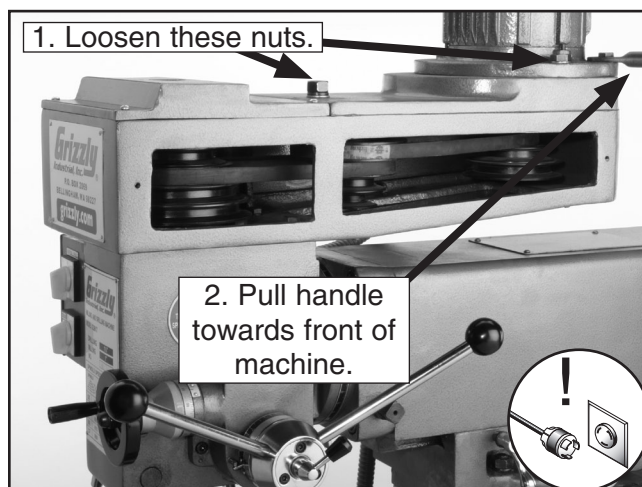

Figure 15. Vertical spindle access panel.
4. Loosen the motor nut next to the handle, loosen the center pulley nut (see **Figure 15**), and pull the motor forward to release tension on the V-belts.